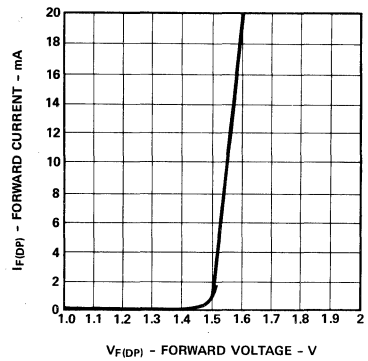

Figure 3. Forward Current vs. Forward Voltage
- $V_{F(DP)}$ is not tested. See Figure 3 for forward voltage versus forward current.